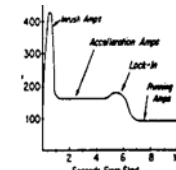

Fig. 2
4. Push start button. Observe motor current during load acceleration and number of seconds required to reach full speed (Fig. 2).